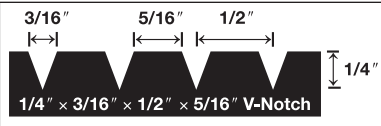

Figure 2
trowel (Figure 2) or other adhesive manufacturer’s
- Spread sufficient amounts of the recommended adhesive with the recommended trowel (Figure 2) in an area that can be covered in 60 minutes (see adhesive information).